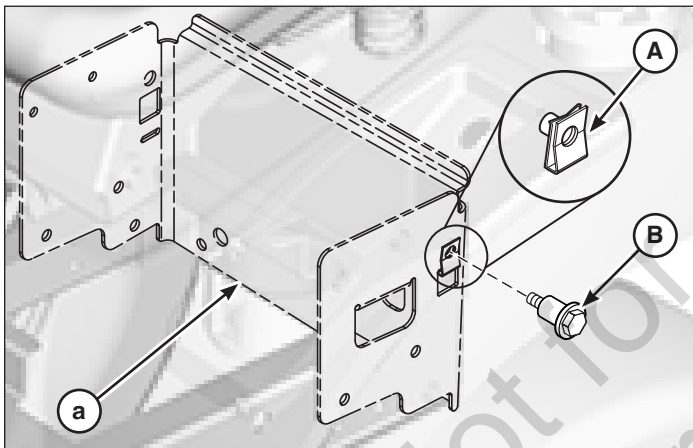

Figure 1
1. Put the speed nut (**A**, Figure 1) into the square hole on the rear frame support (**a**). Make sure the thread side is on the inner side of the support.